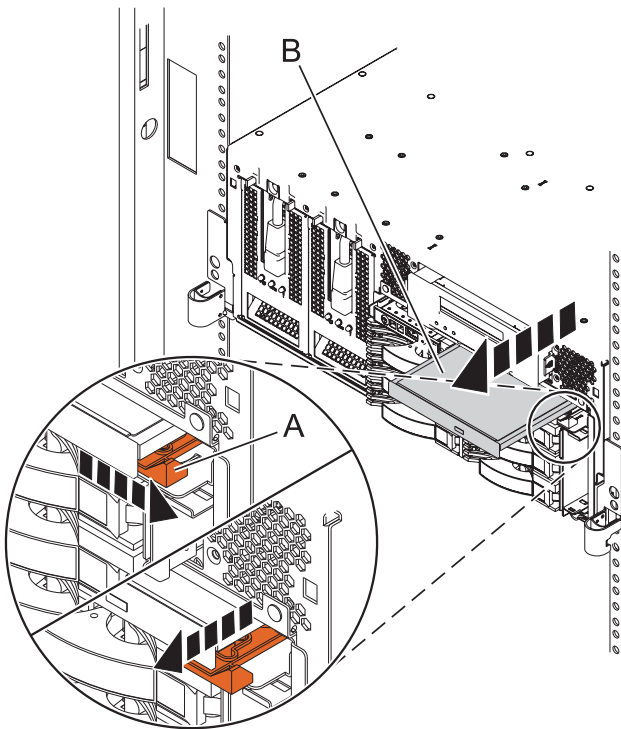

Figure 18. Removing the media device from the disk drive backplane
11. Remove the media device by pressing in on the latch (A) and sliding the media device out of the system, as shown in Figure 18.